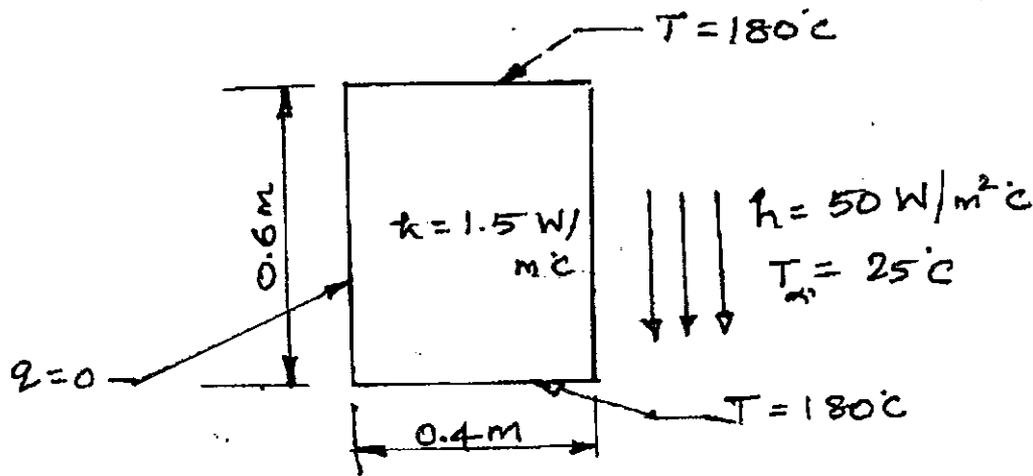

Fig. 8
15. (a) A long bar of rectangular cross section, having thermal conductivity of $1.5 \text{ W m}^{-1} \text{ }^\circ\text{C}^{-1}$ is subjected to the boundary conditions shown in Fig. 8. Two opposite sides are maintained at a uniform temperature of 180°C ; one side is insulated, and the remaining side is subjected to a convection process with $T_\infty = 25^\circ\text{C}$ and $h = 50 \text{ W m}^{-2} \text{ }^\circ\text{C}^{-1}$. Determine the temperature distribution in the bar. (16)